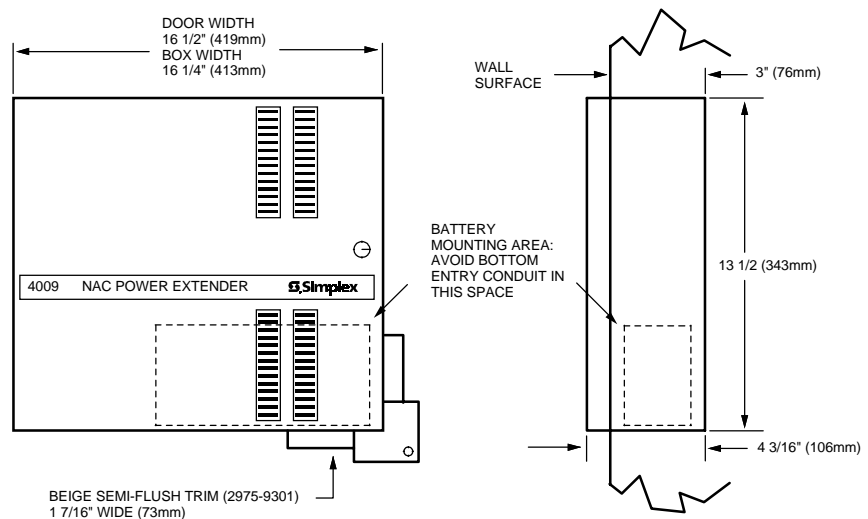

Figure 3. Installing the 4009 Back Box
5. At the 4009 mounting location, install the 4009 back box as shown in Figure 3.